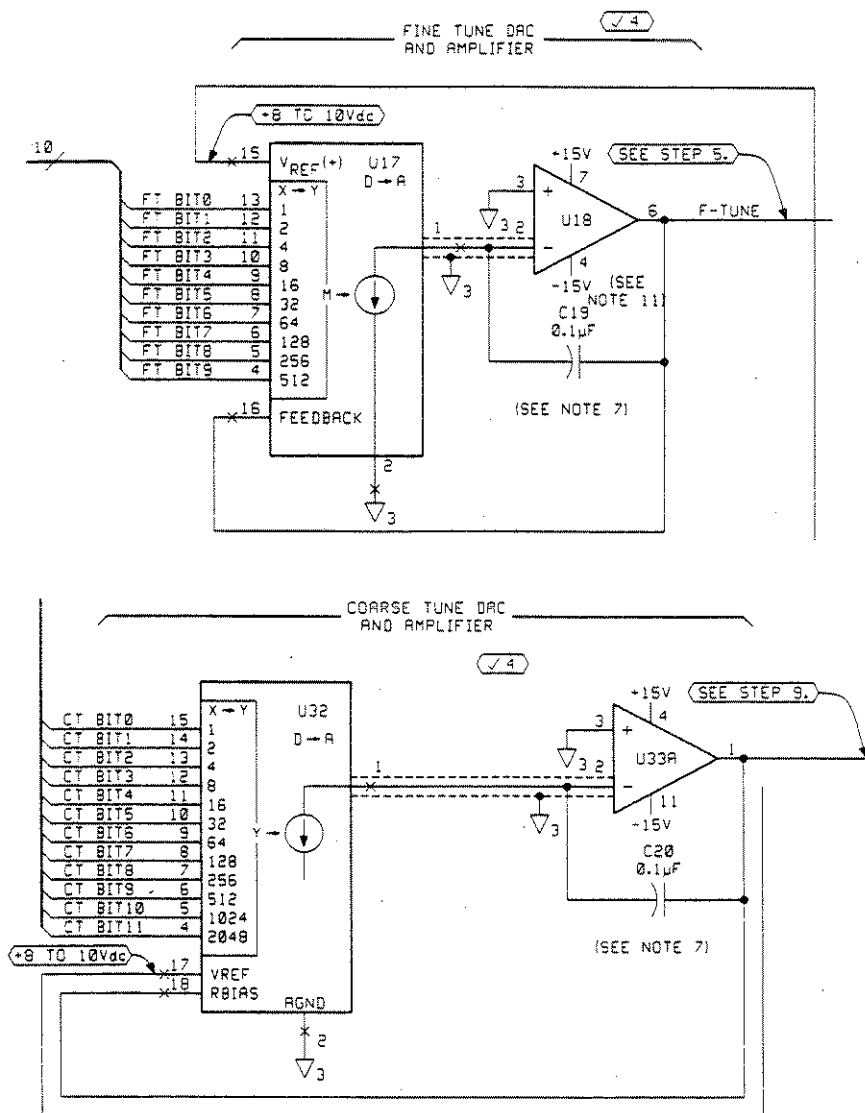

Figure 8-43. Fine Tune DAC and Coarse Tune DAC Voltages
- Measure the reference voltage (V_{ref}) at A13U17 pin 15 to A13TP8 (1ST LO GND). See Figure 8-43. V_{ref} should be between 8 and 10 Vdc. For three settings, full scale, half scale and zero, the DAC voltage is shown in
8. Note the reference voltage (Vref) at A13U32 pin 17 (8 to 10 Vdc). See Figure 8-43. For three settings, full scale, half scale and zero, the DAC voltages are shown in Table 8-40 as they relate to Vref. Using the procedure in step 9, check the three settings of the Coarse Tune DAC.